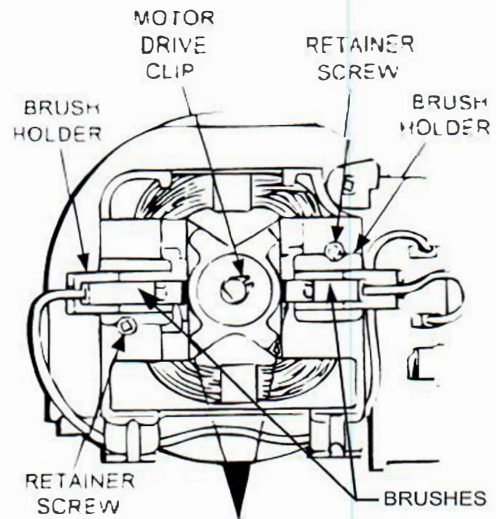
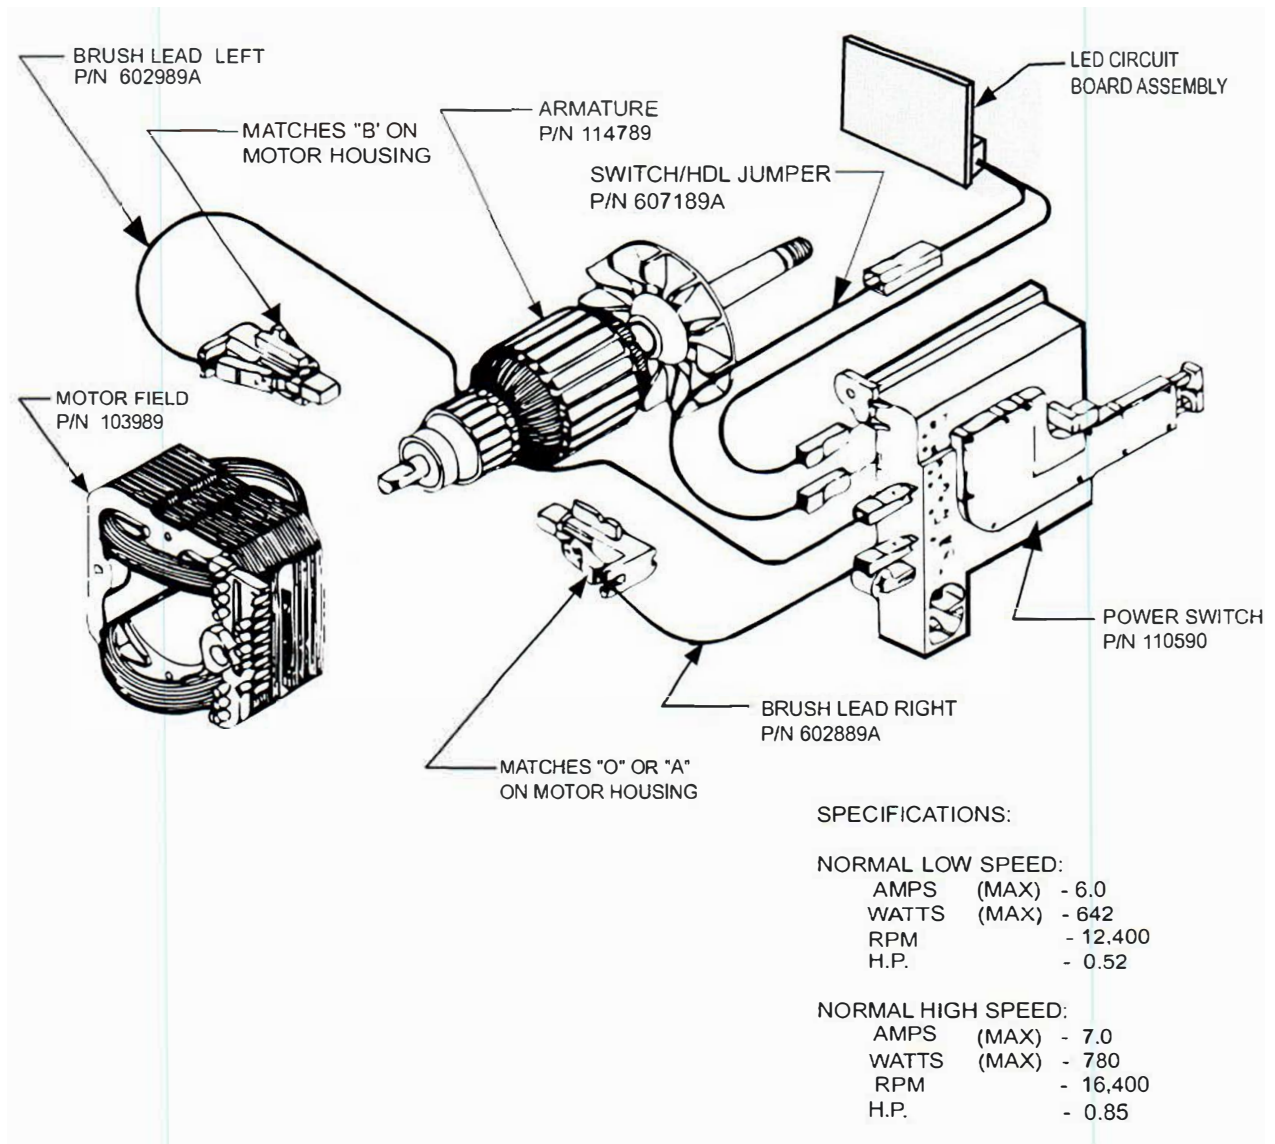

Figure 26. Carbon Brush Cartridge Replacement
Figure 30. Pictorial Schematic
- A. See Figure 26. If carbon brushes are to be reused, mark the brush holder assembly that is closest to the power switch with an "S". Reinstall brush holder assemblies in same positions from which they were removed.
- A. See Figure 26. Using T154, snap ring expander pliers No. 0200, remove motor drive clip at rear of armature shaft.
Refer to Figure 30, pictorial schematic, for proper wire routing, and section 5.6.3. and Figure 26, for carbon brush cartridge assembly positioning and wire routing.
- F. Install right brush lead wire from brush cartridge to lower switch terminal noted "O" on power switch. Refer to Figure 30, pictorial schematic, for proper wire routing, and Section 5.6.3 and Figure 26, for carbon brush cartridge assembly positioning.